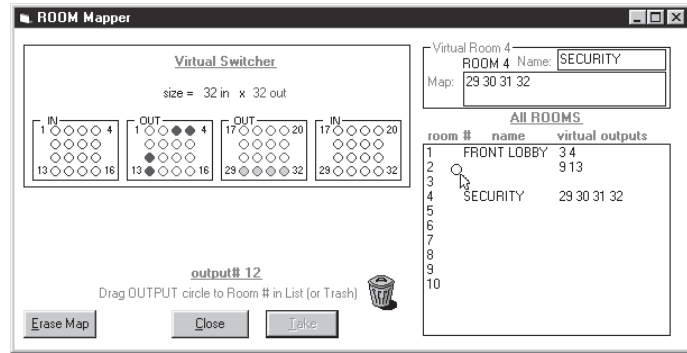

FIGURE 3-7.A
- From the menu on the Main screen, click **SYSTEM-CONFIG** to show the Virtual Switch Virtual Map screen (Figure 3-4.A). From the Virtual Map screen menu, click **CONFIGURE|ROOM** to show the Room Mapper screen (Figure 3-7.A).